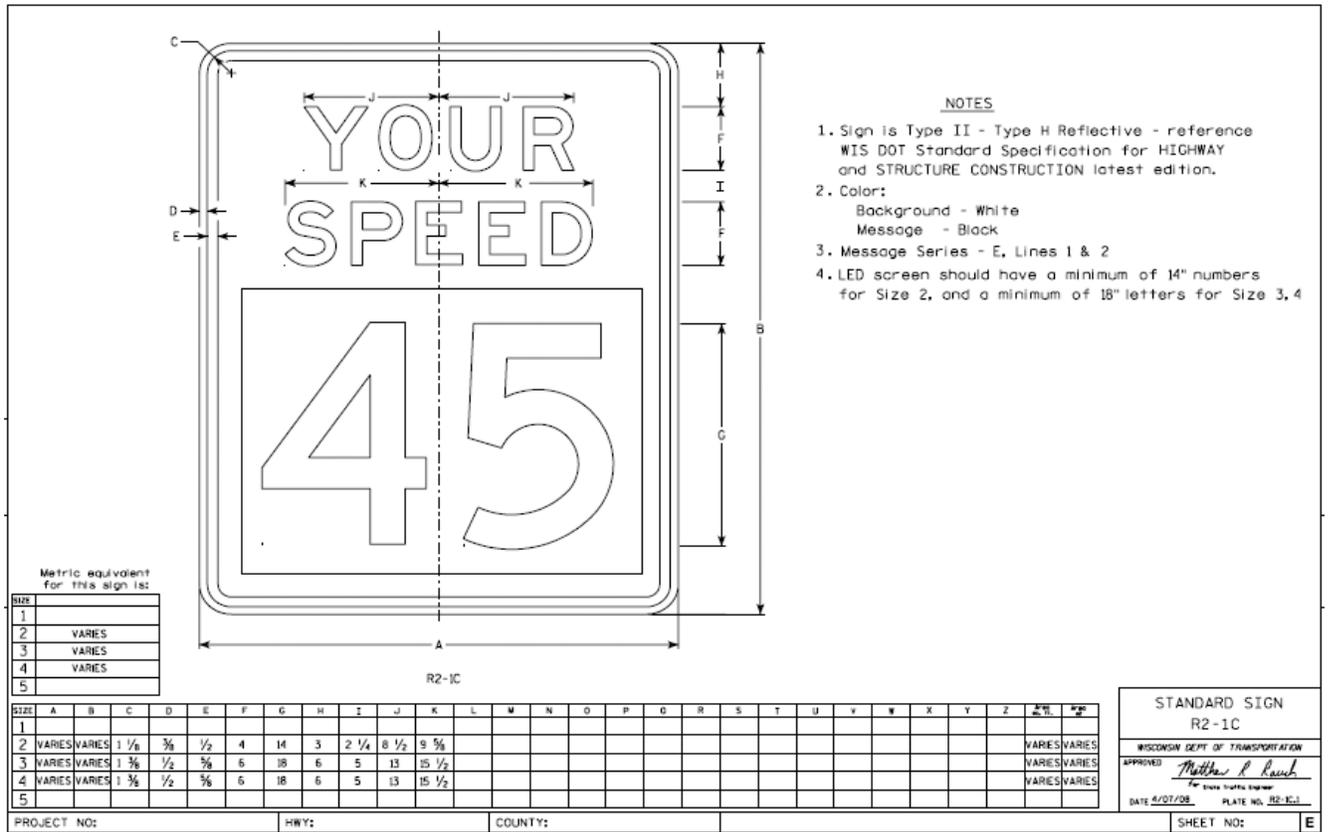

Figure 1. Dynamic Speed Display Sign R2-1C
1. The R2-1C sign (See Figure 1) **shall** be used for permanent applications.